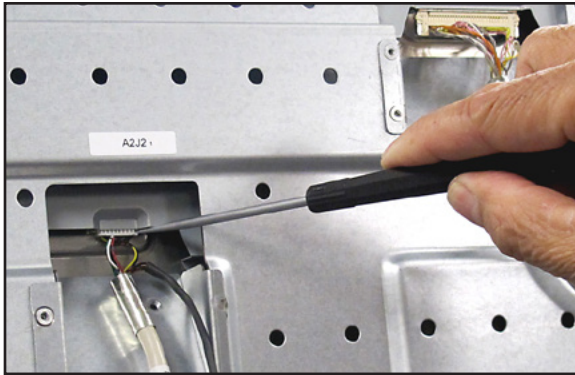

Figure 3-41 Display Connector Removal
- 37.4 Carefully disconnect CNP1 (squeeze latch on each side to release), P2, P4, and P1 from Display Assembly. **NOTE: A thin blade screwdriver will aid in loosening connector as shown in Figure 3-41.**